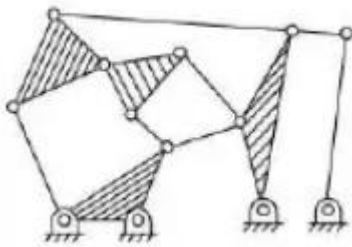
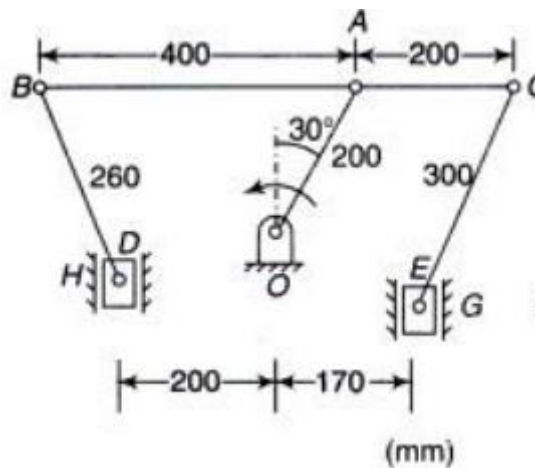

Fig.1,Q 1(b)
Fig.2,Q 2(c)
- (c) For the kinematic linkage shown in Fig.1 , Calculate **07**
- (1)number of binary,ternary links etc.
- (2)number of total links
- (3)number of loops,joints or pairs,degree of freedom
- (c) In a mechanism shown in Fig. 2, the angular velocity of crank OA is 15 rad/sec and the slider at E is constrained to move at 2.5 m/sec. The motion of both the sliders is vertical and the link BC is horizontal as shown. Determine the (i) rubbing velocity at B if the pin diameter is 15 mm (ii) velocity of slider D **07**